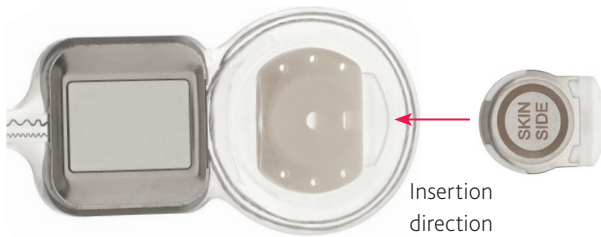

Figure 35: Replacement magnet cassette insertion direction
- the engraving SKIN SIDE (or MRI) is facing up – see *Figure 35* below